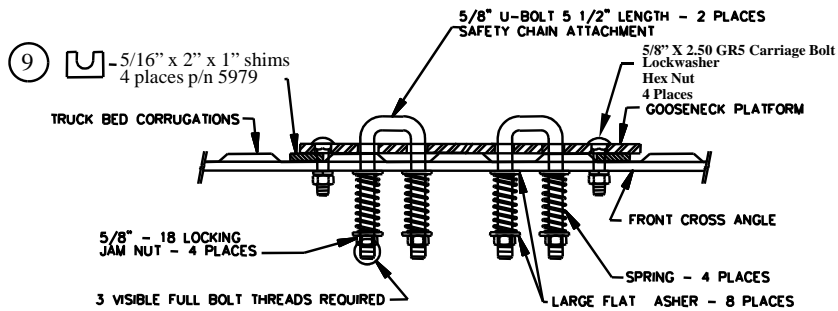

Figure 11
19. **For 6300 and 8339 Installations:** Install the (2) safety chain U-Bolts through the hitch and from under the vehicle install the large flat washer over the U-Bolt followed by a spring, another large flat washer and secure with a thin 5/8" jam nut (see Figure 11). Repeat for the other legs of the U-Bolts. The 5/8" jam nuts are tightened until (3) threads are visible past the bottom of the jam nut.